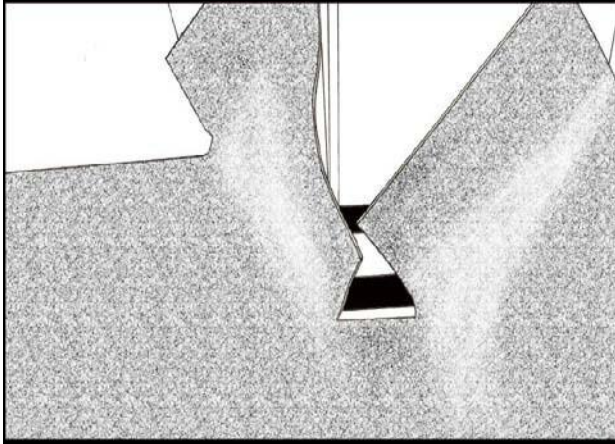

Fig 6.
1. Roughly cut the Comcork oversize to fit the required section. (See Fig 6.)